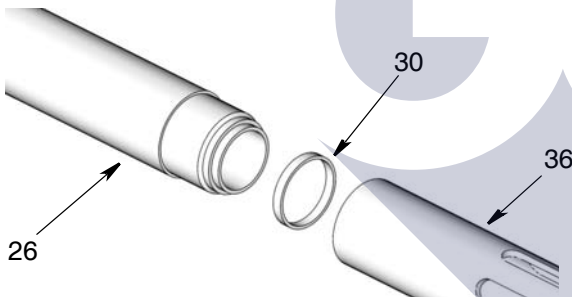

Fig. 33
3. Use a pick to remove the other gasket (30) installed between the cylinder (26) and tube (36) (Fig. 33). Grease the new gasket included in the kit and install it around the cylinder.